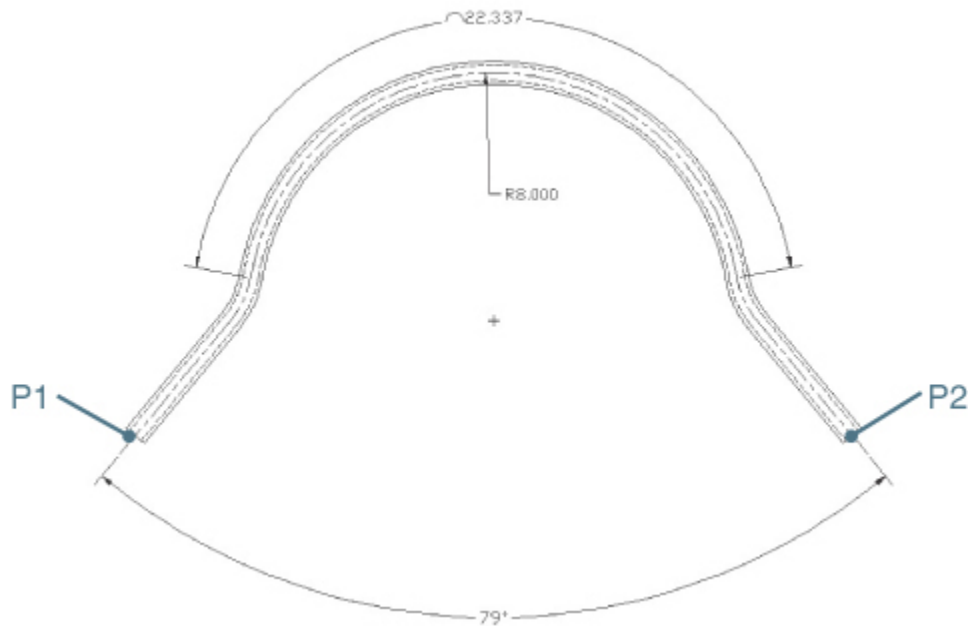

Figure 13-29
- 3 Pick the line at P1 shown in Figure 13-29. AutoCAD prompts you to *Select second line:*.
- 4** Pick the line at P2 shown in Figure 13-29. AutoCAD prompts you to *Specify dimension arc line location or =*.
- 5** Place the dimension line as shown in Figure 13-29. Notice that the angle that is dimensioned varies with your cursor location.
- 6** Save your drawing. Your drawing should look like Figure 13-29.